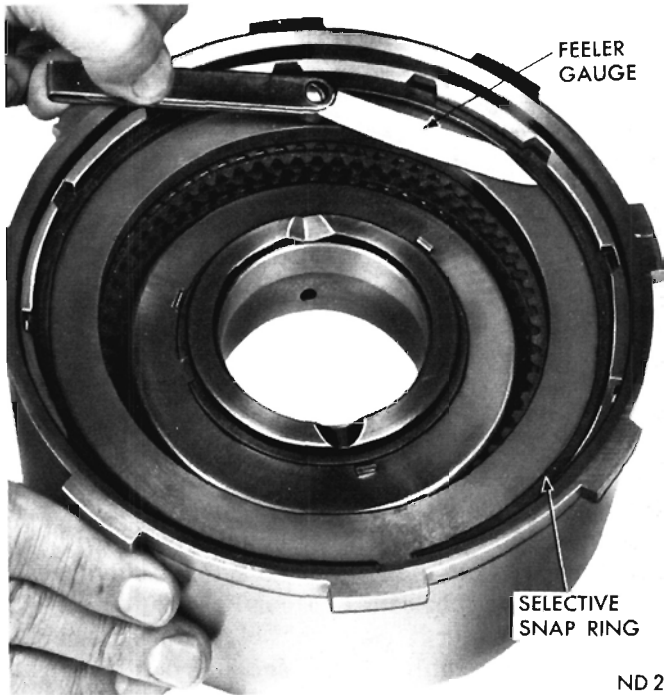

Fig. 70—Measuring Front Clutch Plate Clearance
(5) With front clutch completely assembled, insert a feeler gauge between pressure plate and snap ring (Fig. 70). The clearance should be .056 to .104 inch for the four plate clutch, and .042 to .087 inch for the
between pressure plate and snap ring (Fig. 70). The clearance should be within limits given in the chart. If not, install a snap ring of proper thickness to obtain specified clearance. **Snap rings are the same as those used in rear clutch and are available in .060-.062, .074-.076 and .088-.090 inch thickness.**